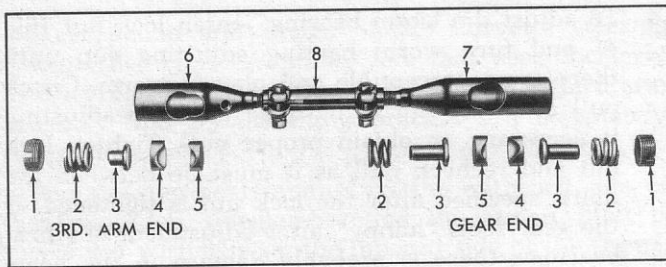

Fig. 5—Steering Connecting Rod Assembly Layout
1. Disconnect the steering connecting rod from the pitman arm, taking care to note relative positions of steering connecting rod parts before disturbing them (fig. 5).
The steering connecting rod is adjustable for length to enable maintaining high point of steering gear adjustment with front wheels in the straight ahead position. Figure 5 shows details of connecting rod. Before making this adjustment, however, it is important that the ball and socket ends be adjusted properly to the pitman arm ball stud and the steering idler and third arm ball stud.
10. Disconnect pitman arm to steering connecting rod by using a drag link bit to remove end plug, spring, safety plug and ball seat from connecting rod (fig. 5).